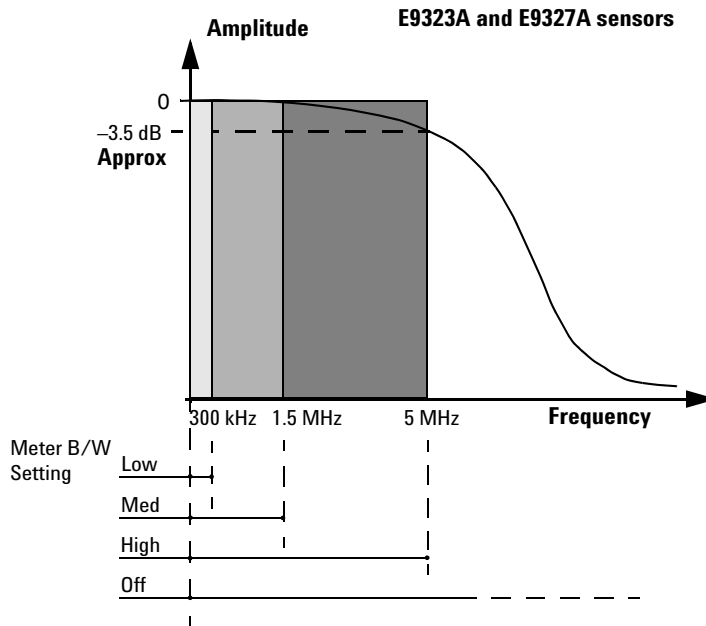

Figure 4-101 Bandwidth Filter Shapes
* The Low, Medium, and High settings provide flat filter responses with very sharp cutoff points by applying digital signal processing techniques. The Off setting removes all signal conditioning. Refer to Figure 4-101.
Figure 4-101 shows the filter shapes associated with the E9323A and E9327A power sensors